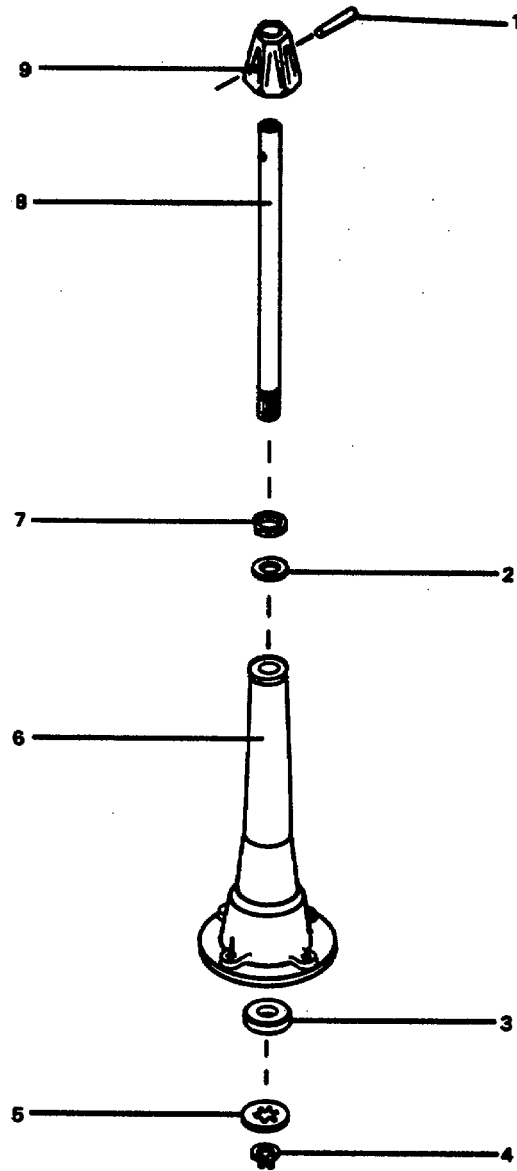

FIGURE 3-88. *Washer Machine Agitator Post Assembly.*
**3-94. Repair Washer Machine Agitator Post Assembly. (Figure 3-88)**
**3-95. Repair Washer Machine Agitator Post Assembly. (Figure 3-88)**